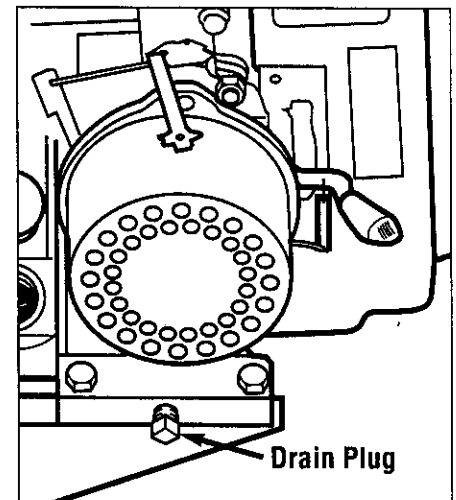

Figure 4-4: Draining engine oil.
5. Use a 3/8" open end wrench to remove the drain plug (see arrow in Figure 4-4). Put it aside. Let all of the old engine oil drain completely into the drain pan.